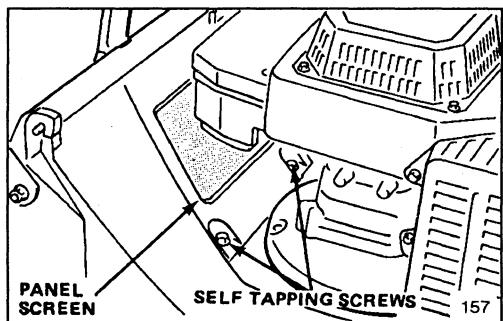

Figure 25
2. Remove (2) 1/2" self tapping screws securing panel screen to mower deck and remove panel screen (Fig. 25).
**Note:** For easier access to panel screen screws, remove (2) self tapping screws from gas tank and move gas tank out of the way.